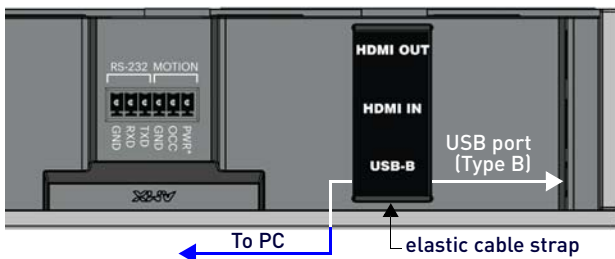

FIG. 29 Acendo Vibe Connector bay - Detail (ACV-5100 shown)
- For wall-mounted installations, rotate the Acendo Vibe unit down and away from the wall to access the Connector Bay. The USB-B port is labeled on the elastic cable strap (FIG. 29):